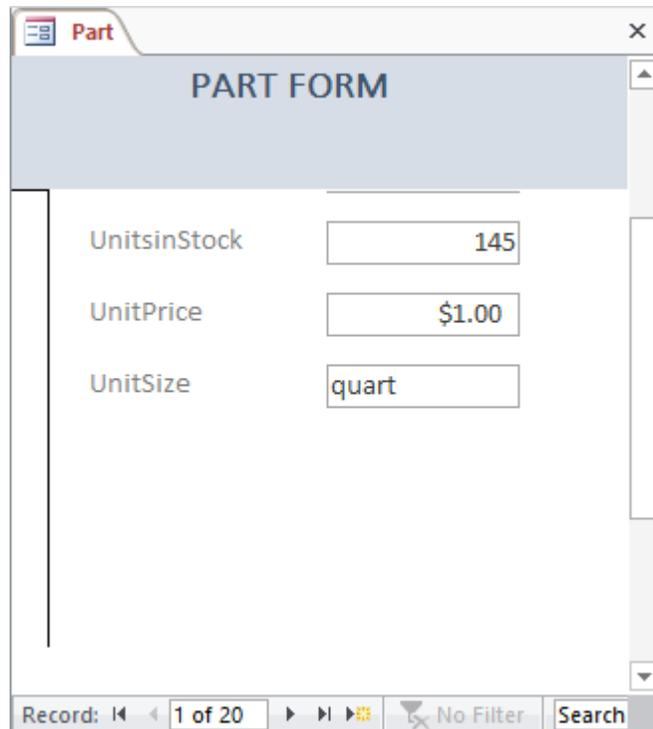

Figure 26: Revised *Part* Form
3. Toggle to Form View: See how the form looks in form view (Figure 26). If you are satisfied with the result, toggle back to design view.